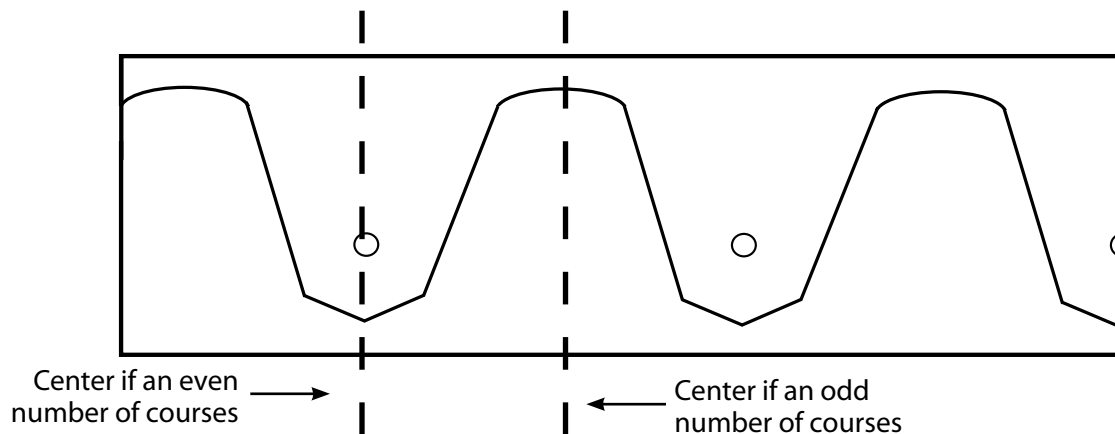

FIGURE 15
- Beginning at the left, install the first Scallop panel, being sure that all starter tabs are engaged and the panel is level. Nail the panel every 10" (**FIG 15**).